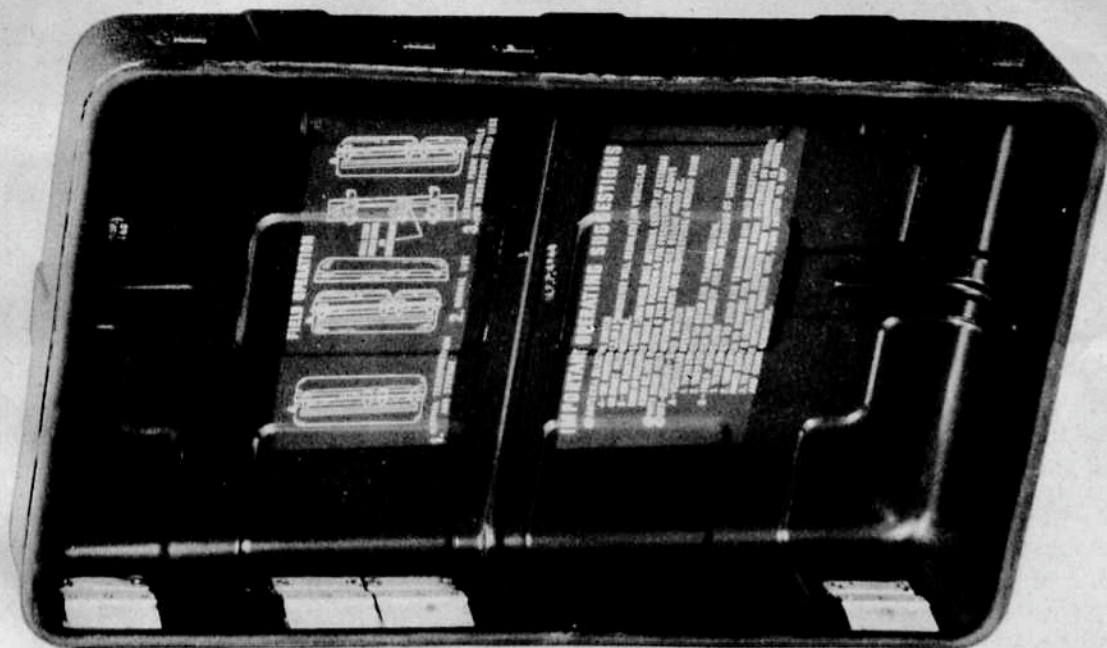

Figure 12. Panel Cover M-404.
**13. PANEL COVER M-404.** Panel Cover M-404 (fig. 12) is a metal watertight cover that serves three purposes: